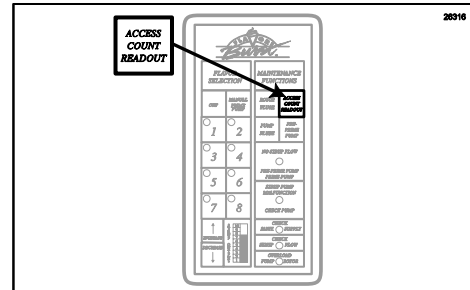

Figure 167
1. Press and hold the ACCESS COUNT READOUT key for 3 seconds until you hear a beep. (See Figure 167.)